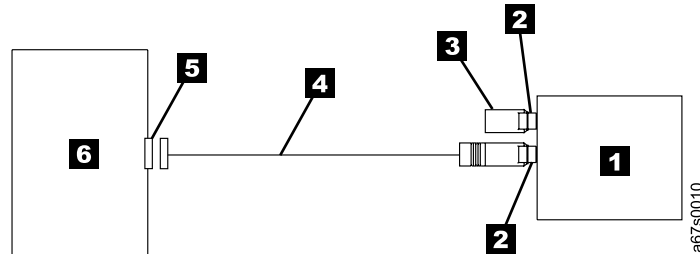

Figure 4. Example of connecting one SCSI device to the server. The view is from the top.
- **If the 3581 Tape Autoloader Is the Only Device on the SCSI Bus:** connect the SCSI bus cable to the server (see Figure 4).
Note: The autoloader actually consists of two devices: the autoloader controller and the tape drive. For illustration purposes, Figure 4 represents the autoloader as one device.